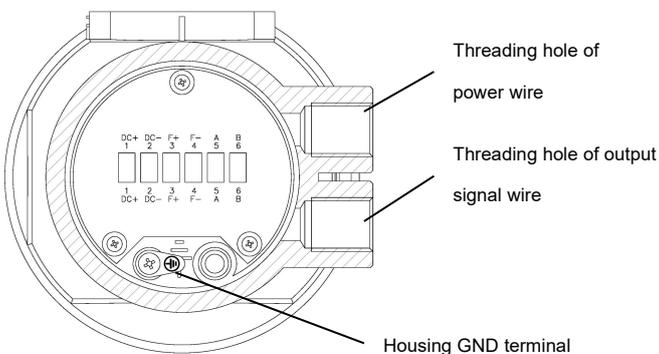
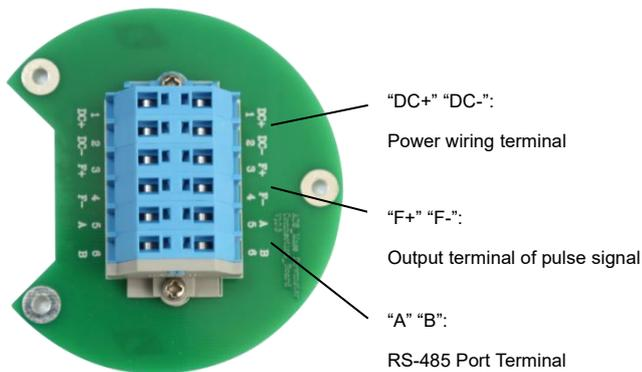

Fig.16 The layout diagram of the wiring chamber of T1000 Transmitter
Fig.17 The layout diagram of the wiring of wiring chamber of T1000 Transmitter
two separated M20×1.5 Elect. Conn. threading holes and used respectively for the wiring of the power and output signal. The layout diagram of the wiring chamber is shown in Fig.16 and Fig.17.
- 2) T1000 connection as shown in Figure 17: DC +, DC-
- 1) T1000 connection as shown in Figure 17: F + (positive), F- (negative)
- 1) T1000 connection as shown in Figure 17: A, B